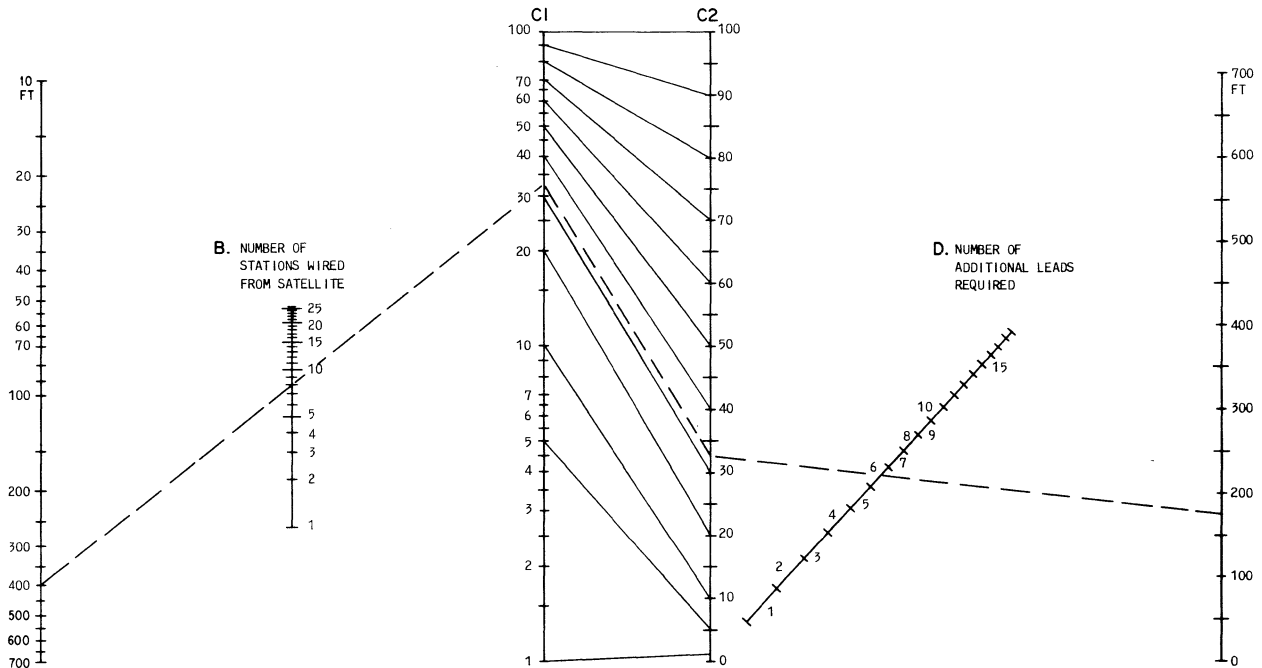

Fig. 20—Satellite Nomograph
**3.20** The number of additional conductors required per L and LG lead is determined using the nomograph shown in Fig. 20. To use the nomograph, it is necessary to know three items:
By plotting the values on the proper scales and connecting them, the required number of additional conductors required per L and LG lead can be determined. The three required values are plotted on scales A, B, and E, respectively, on Fig. 20. The number of additional leads required per L and LG lead will be found on scale D. Scales C1 and C2 are used only to establish reference points.♦
satellite, and the farthest station is 175 feet from the satellite. These figures are used as an example shown on Fig. 20 and are shown as dotted lines. To determine the number of extra leads required, use the nomograph as follows: